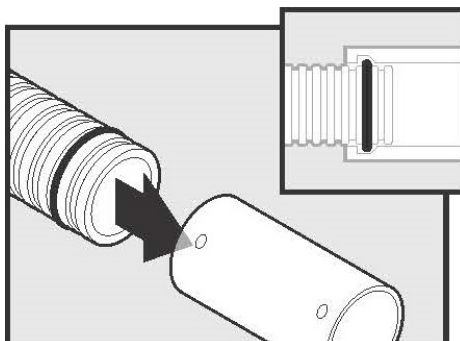

Figure 30
5. Insert the gasketed end of the corrugated conduit into the coupler, making sure it's inserted all the way to the insertion mark. The lock ring on the inside surface of the coupler should snap into the matching corrugation as shown on Figure 30.